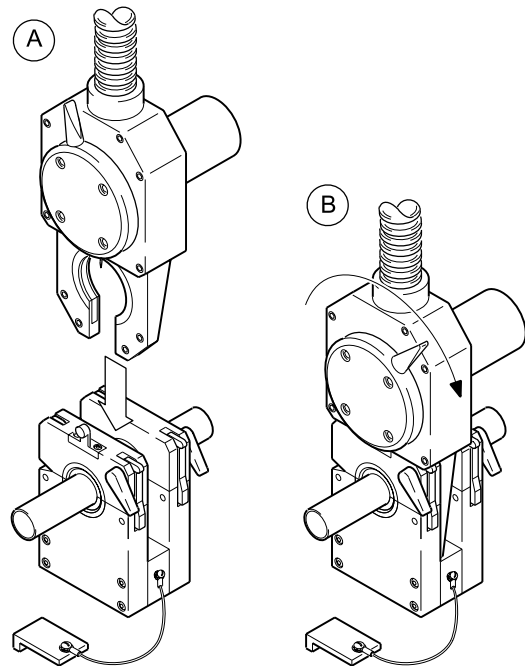

Figure 26 Mating the Weld Head to the Fixture Block
2. Insert the weld head into the fixture block. See Figure 26(A).
3. Rotate the locking lever clockwise to secure the weld head. See Figure 26(B).